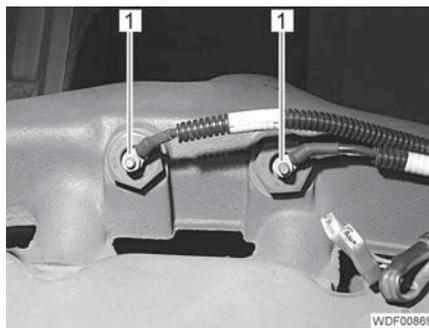

Fig. 51 Glow plugs
- Connect the 2 lines (Fig. 51,1) to the glow plugs.